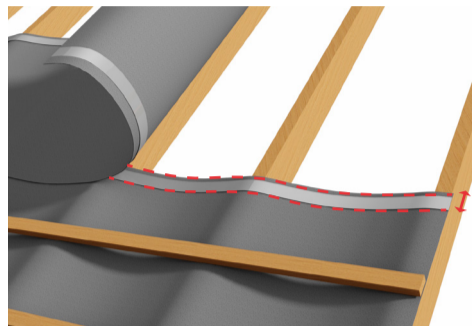
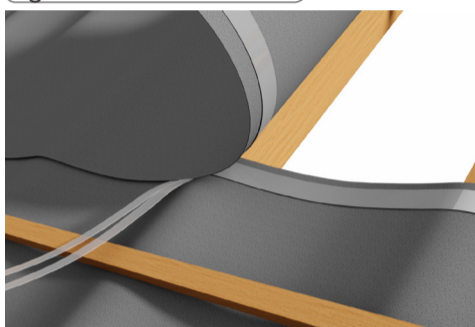

fig 3: Horizontal laps
fig 5: Double integral tape
4. Continue laying each course of Danelaw LR120TT working up the roof pitch in the same way. Ensure the integral tape on the lower and upper layer are aligned, peel back the release paper on both layers of the underlay gradually at the same time and press the two layers together to form an effective seal (fig. 5). Continue working along the roof in this way to seal the full length of the horizontal overlap (fig. 3). Tape to tape alignment is achieved using the 150mm overlap line marked on the membrane.